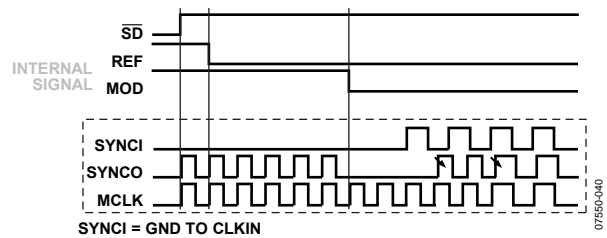

Figure 40. SYNCI = GND to Clock Input
- SYNCI = GND, transitions to clock. When the SYNCI pin is connected to GND first but then transitions to a clock signal, SYNCO generates several internal clock signals before finally being synchronized to the external clock signal, as shown in Figure 40.